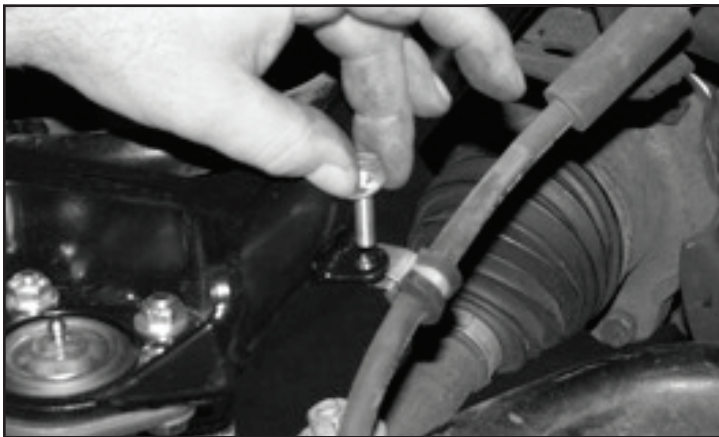

FIGURE 37 - STEP 39
39. Use an FTCLAMP, 1/4"-20 x 1" bolt, nut, and washer to connect the brake line to the control arm. **SEE FIGURE 37**